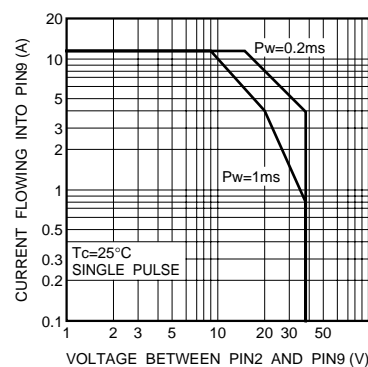

Fig.12 Safety operation range
- (1) The output current should be reduced according to an increase in the input voltage or ambient temperature. Use the modules within the derating curve range.
- (2) Pins 5 and 7 are no connected.
- (3) No circuit is installed in the modules to protect against over output currents. Take physical safety measures such as fusing if short-circuit loading is probable.
- (4) A large rush current may flow in the module when the input voltage is applied or the output ON / OFF is controlled with pin 4 without a capacitor such as C1 in application 4. Operating within the safe operation ranges shown in Figs.12, 15, and 18.